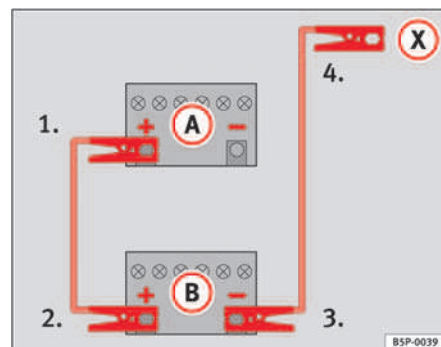

Fig. 193 How to connect the jump leads
In ⇒ fig. 193, the flat battery is **A** and the charged battery **B**.
1. Connect one end of the red jump lead to the positive ⇒ fig. 193 (+) terminal of the vehicle with the flat battery ⇒ ⚠.
4. Connect the other end of the black jump lead (X) to a solid metal component which is bolted on to the engine block, or onto the engine block itself of the vehicle with the flat battery. Do not connect it to a point near the battery ⇒ ⚠.